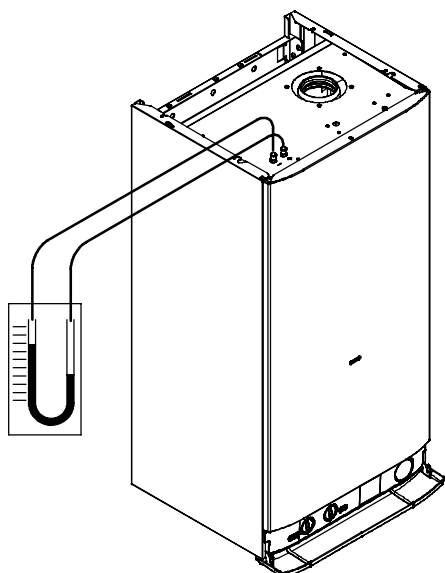

Fig. 77
- 1 Remove the caps of the pressure test points located on the top of the boiler and connect a differential pressure gauge (Fig. 77).